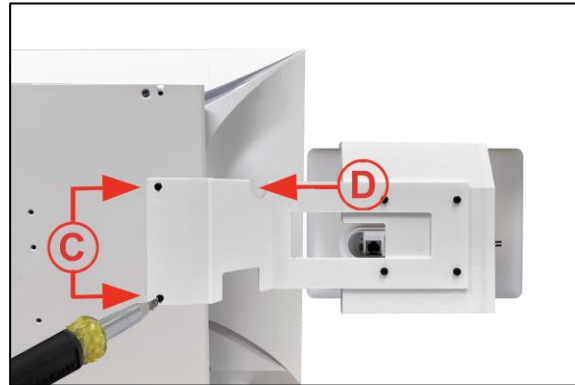

Figure 26. Attaching Navigator Mounting Bracket
A Philips screwdriver is used which is put through the cutout in the side of the mounting bracket (D), as shown in Figure. 26.
Once the Cisco Navigator and bracket assembly have been installed, an RJ45 cable (pre-installed) is connected the Control Port (1) on the right-hand side of the CLINiC. This cable runs to the left-hand side of the system in the void between the main chassis and the rear of the display (2) as shown in Figure. 26.